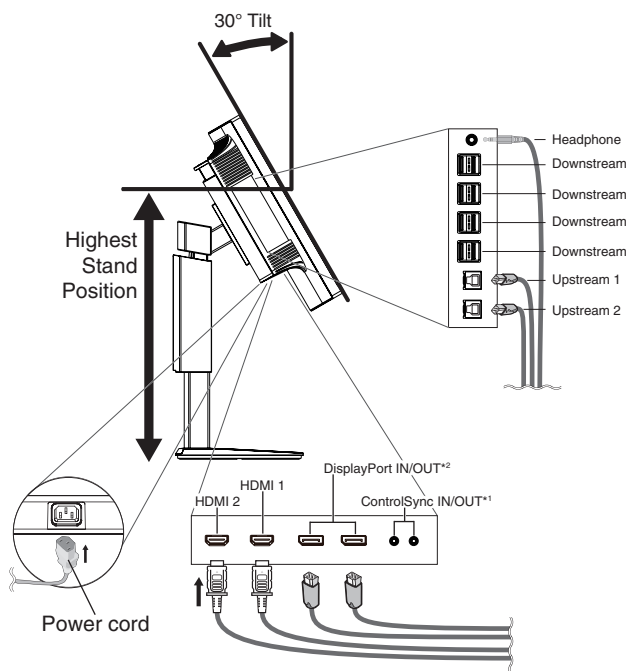
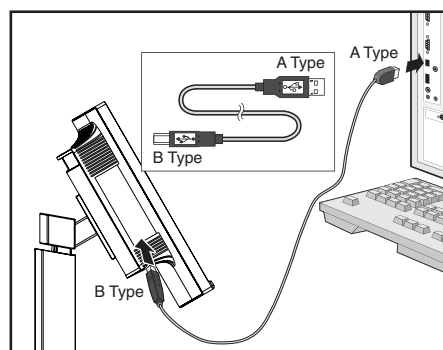

Figure C.1
Figure C.1a
4. Connect all cables to the appropriate connectors (**Figure C.1**). When using the USB cable, connect the B type connector to the USB upstream port on the rear side of the monitor and the A type connector to the downstream port on the computer (**Figure C.1a**). If using the cord from a USB device, plug into the downstream port of the monitor.